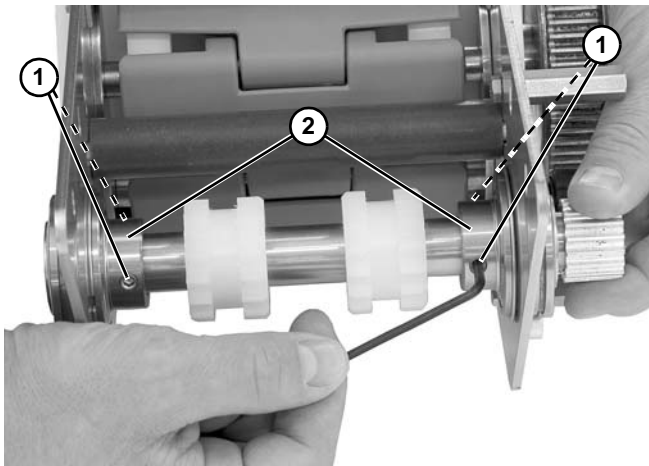

**Figure 67**
12. Remove hex head screws (**Figure 67, item 1**) and wear tube (**Figure 67, item 2**).